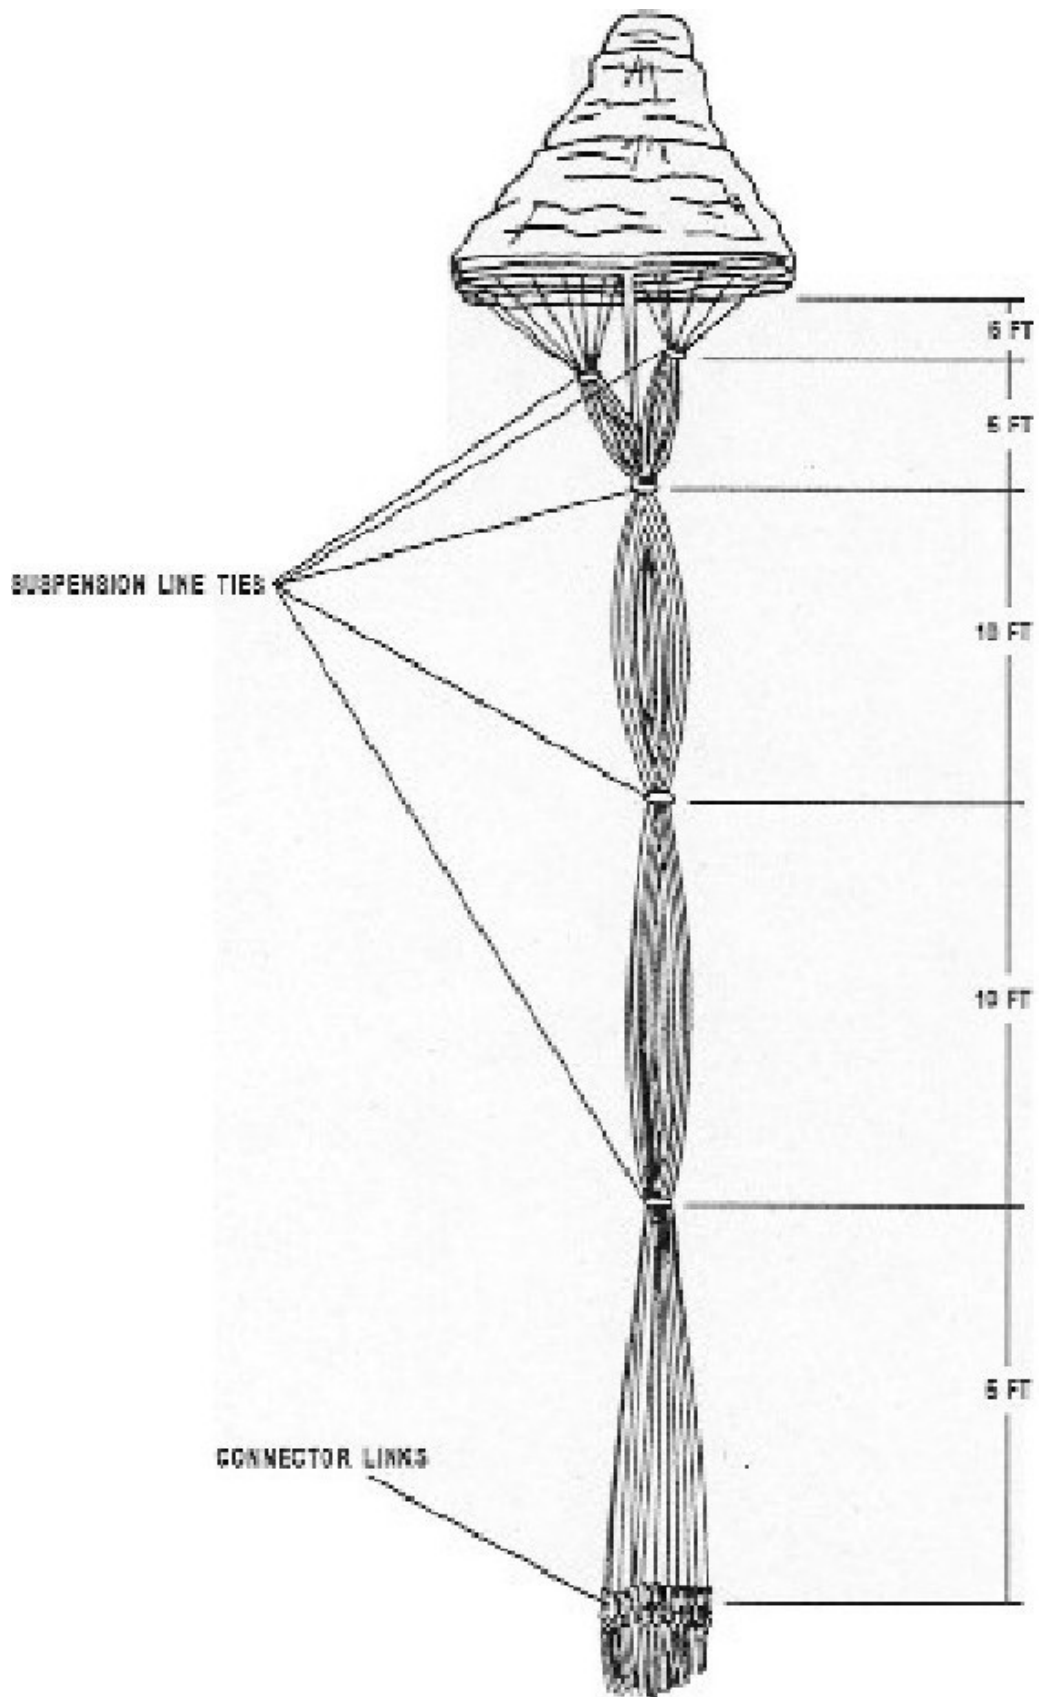

Figure 3-26
- b. Tie each group of suspension lines separately using one turn single, ticket number 8/4 cotton orange thread at a point 5 feet below the skirt band. (See Figure 3-26)
- c. Tie both suspension line groups and centerline together using one turn single, ticket number 8/4 cotton orange thread beginning at each point 10 feet below the skirt band and at 10-foot intervals thereafter. Secure each tie with a surgeon's knot and a locking knot. Make the last tie 5 feet above the connector link assemblies. (See Figure 3-26)